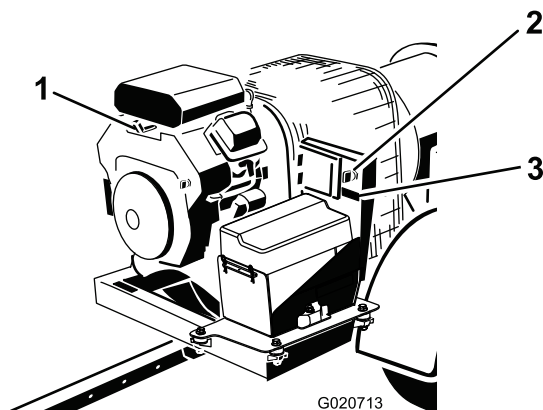

Figure 11
3. Rotate the engine ignition key to the “START” position and quickly release it to the “ON” position (Figure 11). This wakes up the receiver.
4. If leaving the machine, rotate the key to the OFF position and remove it from the engine (Figure 11).